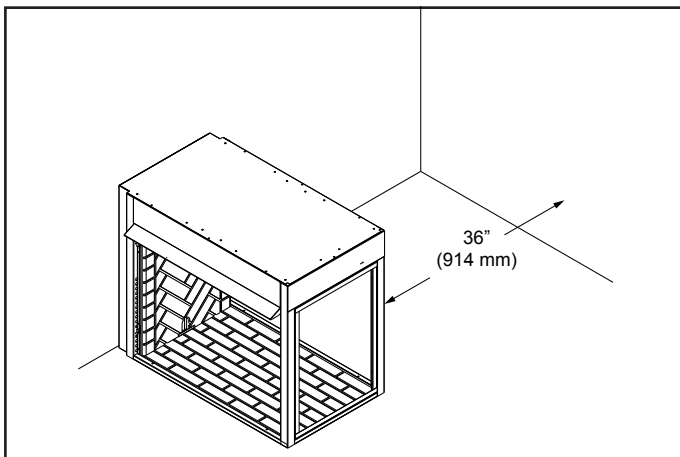

Figure 6.2 Wall Clearance
4. **Parallel wall clearances:** The clearance from the opening of the firebox to any wall that is parallel to the opening should not be less than 36". See Figure 6.2.